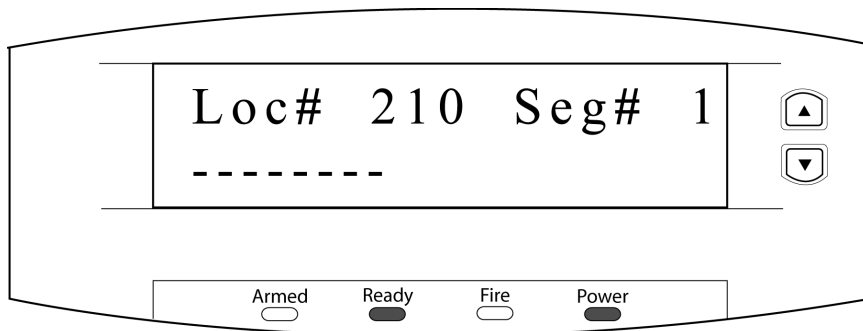

Figure 9: Alarm Panel - Location 210, Segment 1
1. Enter the location for Enabling the NX-8E Transition-Based Broadcasts, which is **2 1 0**, followed by the **#** key. This location has two segments that must be configured. For Location 210, Segment 1, all numbered options must be toggled to the OFF position. Once completed, the LCD will look similar to Figure 9.